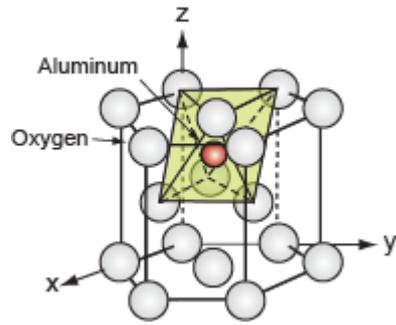

Figure C39. The M atoms of the corundum structure lie in the octahedral holes of a HCP oxygen lattice.
A number of oxides have the formula  $M_2O_3$ , among them Alumina,  $Al_2O_3$ . The oxygen, the larger of the two ions, are close-packed, in an HCP stacking. The M atoms occupy two thirds of the octahedral holes in this lattice, one of which is shown for alumina, filled, in Figure C39. Locating the rest is the subject of Exercise E38, below.
- E38.** The symmetry elements of the HCP structure are  $3m$ . Use this information to infer how many octahedral holes are contained in the HCP unit cell of Figure C39. If all were occupied by M atoms, what would the formula of the oxide be?
**E38.** The HCP lattice has a triad axis normal to the close packed planes. Rotation about this axis thus returns the lattice to itself 3 times per full revolution. This means there are three octahedral holes like that in Figure C39. The lattice also has a mirror plane – it is the close-packed plane. Reflecting about this plane creates three more octahedral holes. Thus the unit cell contains six octahedral holes.